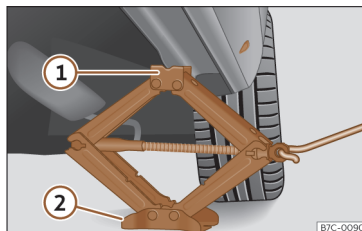

Fig. 197 Crossbar: mounting the jack on the vehicle.
- Turn the jack crank handle, located below the crossbar support point, to raise it until the tab ① >>> **Fig. 197** is below the housing that is provided.
- Align the jack so that the tab ① “grips” onto the housing provided on the cross member and the mobile base ② is resting on the ground. The base plate ② should fall vertically with respect to the support point ①.